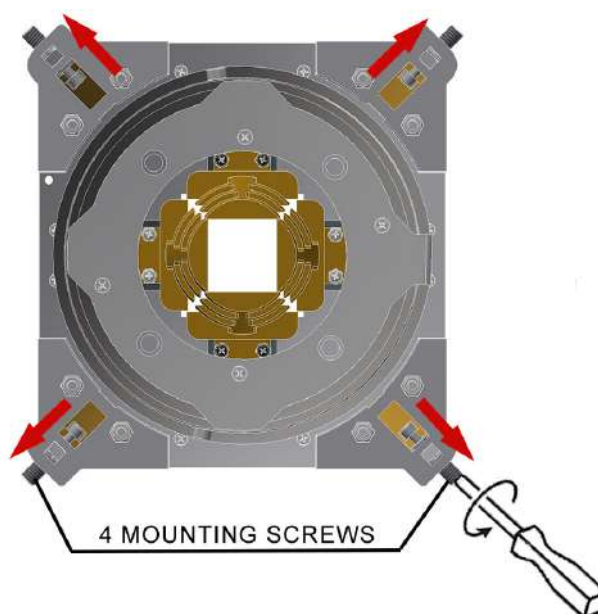

Fig. 4 Mounting Screws
1. Prepare the collimator to be installed by unscrewing the 4 hexagonal socket screws until the four tabs are completely withdrawn from the collimator top mounting plane, see **Fig. 4 Mounting Screws**.